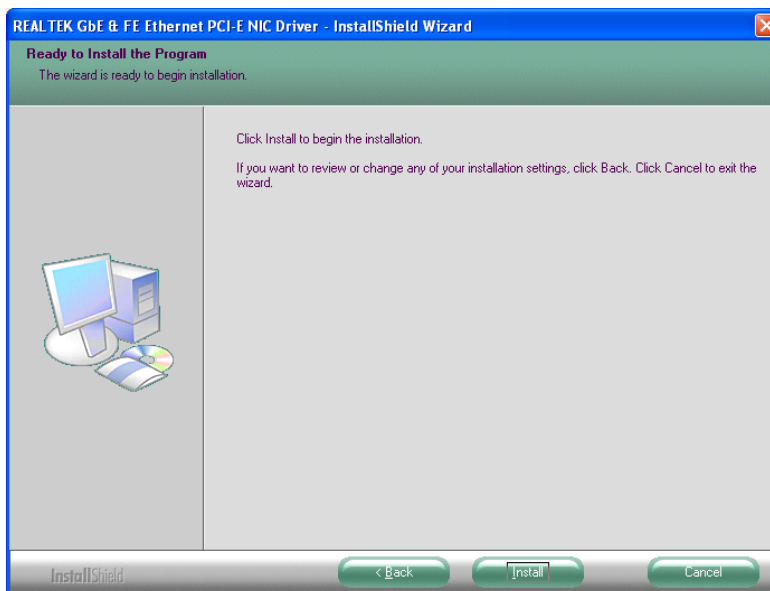

Figure 6-16: LAN Driver Welcome Screen
Step 5: The **Ready to Install** screen in Figure 6-16 appears.